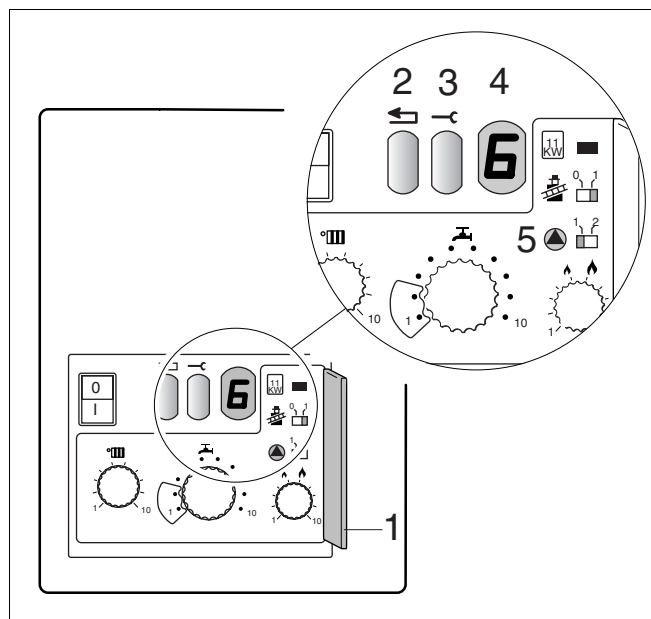

Fig. 5 Operational and fault messages
- Open the cover of control level 2 (fig. 5, item 1).
- Turn the "pump" switch  into position "2" (24-hour pump over-run time) (fig. 5, item 5).
Operating conditions or possible faults are shown on the display (fig. 5, item 4). The message is displayed in form of two characters. The second character is displayed after pressing the service button (fig. 5, item 3).